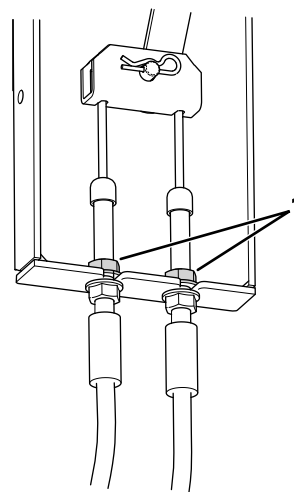

Figure 71
3. Locate the brake-cable mount (Figure 71) under the left side of the machine near the left wheel.